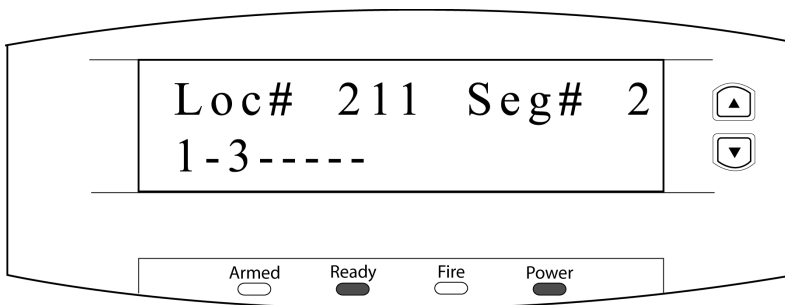

Figure 12: Alarm Panel - Location 211, Segment 2
5. Select the ***** key to save the selection and move to the next segment. For Location 211, Segment 2, only options numbered 1 and 3 should be on. Once completed, the LCD will look similar to Figure 12.